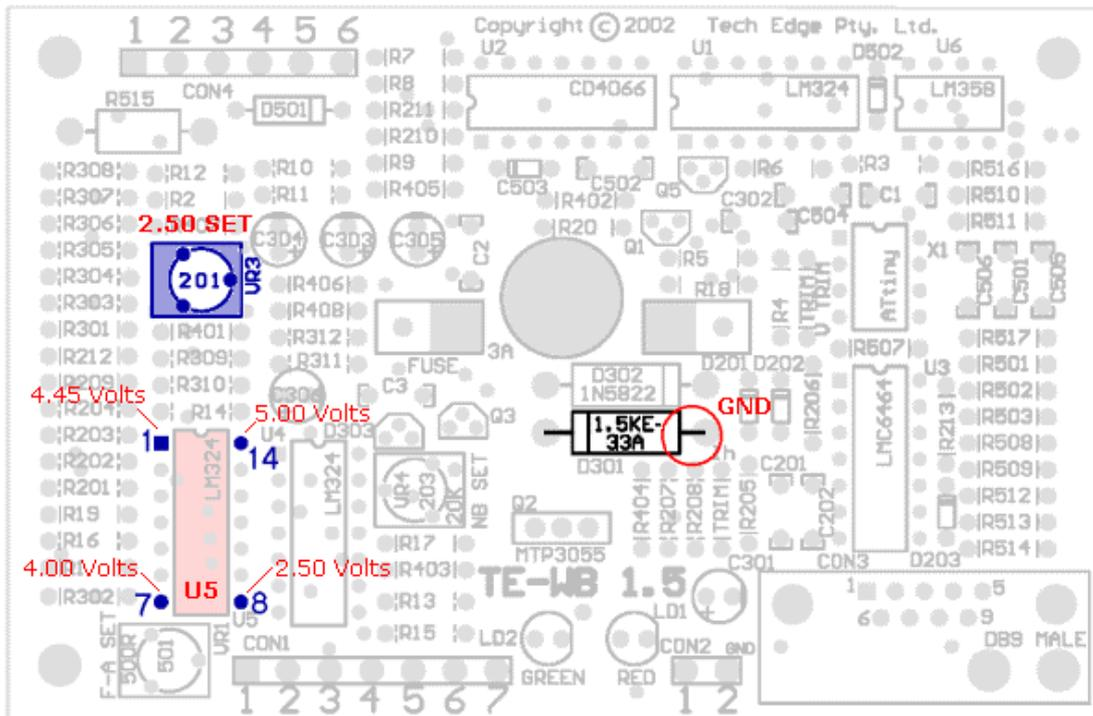

Figure 1.
1. Attach the multimeter's ground lead (preferably using an IC test clip) to a convenient ground (GND) point. The right-hand leg of the 1.5KE-33A Diode is a good point. (RED circle in Fig 1. above)